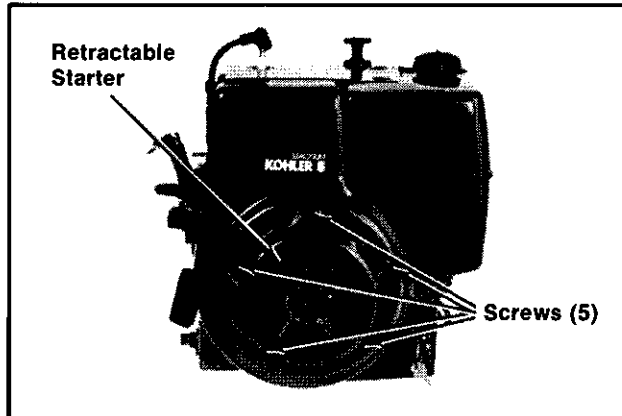

Figure 10A-8. Removing Retractable Starter.
1. Remove the screws and starter assembly. Refer to Figure 10A-8.